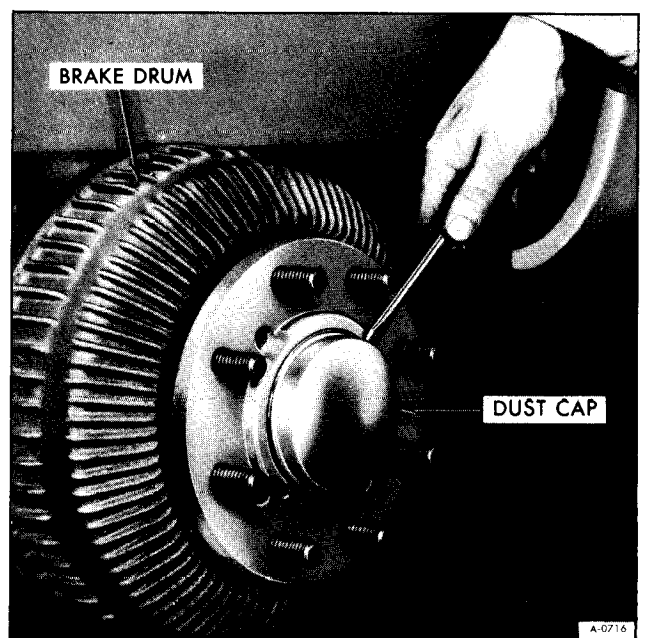

Figure 8—Removing Dust Cap
3. Remove dust cap as shown in Figure 8.